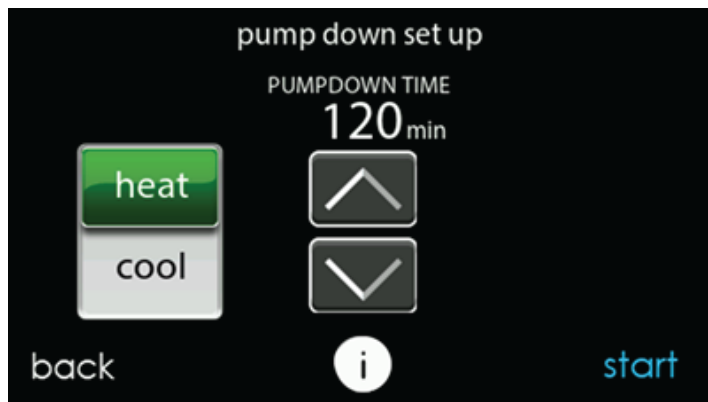

Fig. 21 – Pump Down Setup Screen
3. Pump down in COOL mode allows refrigerant to be isolated in outdoor unit. Set desired time period. Default time period for the procedure is 120 minutes. See Fig. 21.